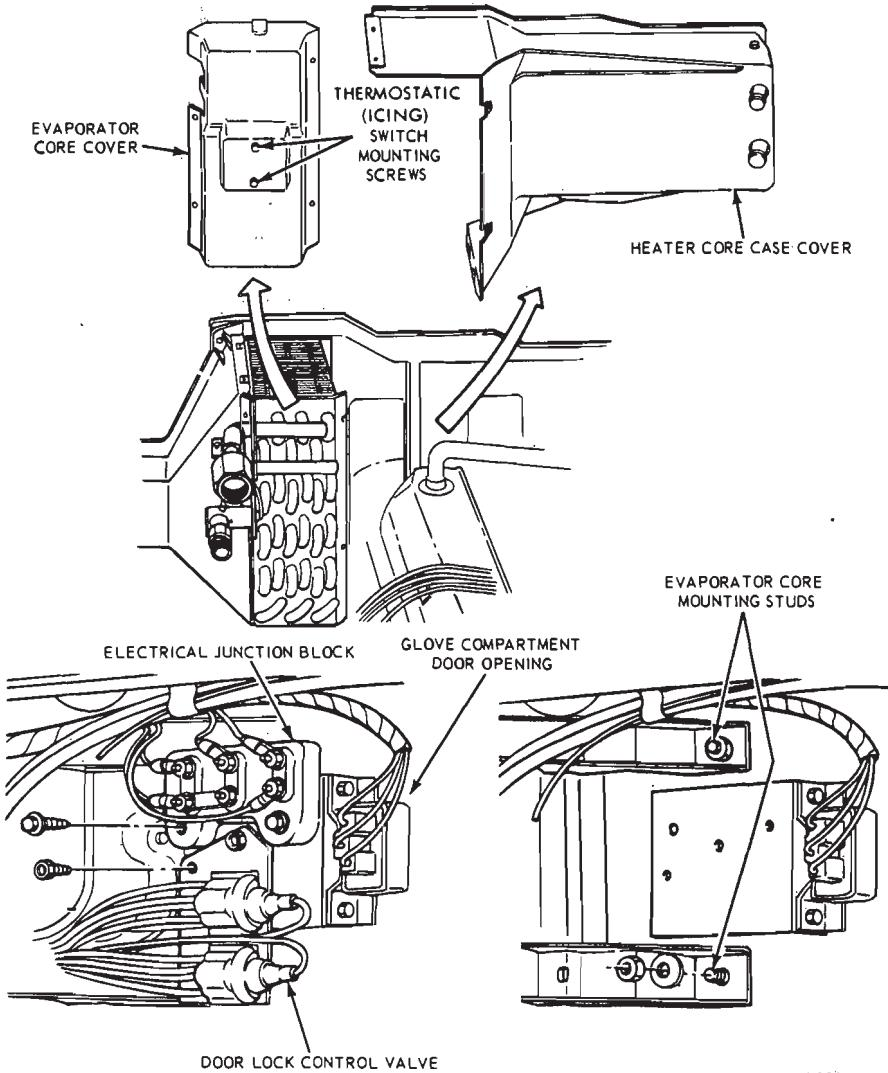

FIG. 65—Evaporator Core Removal—Thunderbird and Continental Mark III
3. Disconnect the heater hoses at the heater core and position the hoses and heater water valve (4) away from the housing.
9. Remove the glove compartment liner, and disconnect the electrical and vacuum junction blocks on the inner dash panel (Fig. 65), and set to one side.
8. Remove the glove compartment liner, and disconnect the electrical and vacuum junction blocks on the inner dash panel (Fig. 65), and set to one side.